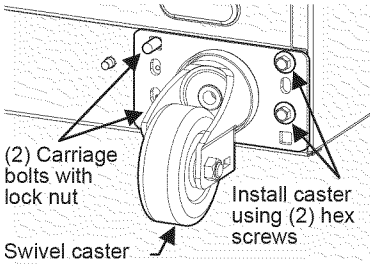

Figure 5
3. On the opposite side of the swivel caster plate, insert 2 carriage bolts through the compressor support rail and swivel caster plate. Use a lock nut on each bolt and tighten securely using a 9/16" socket wrench. See Figure 5.